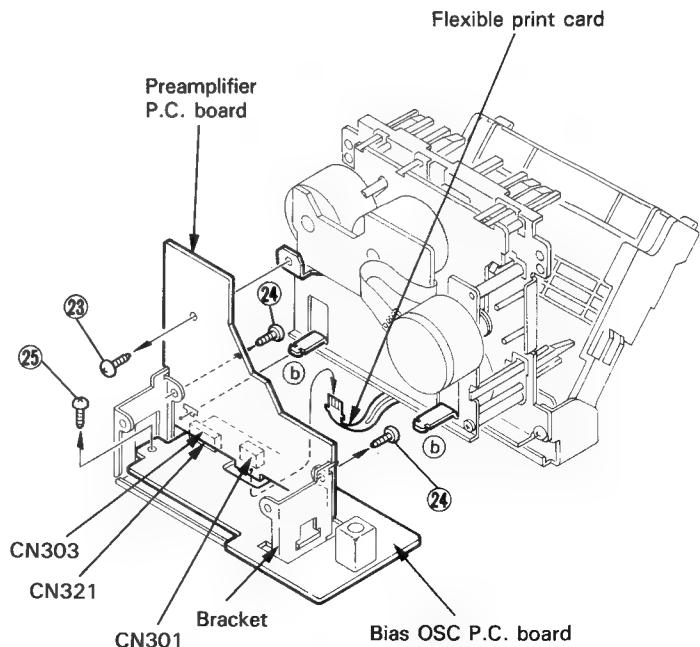

Fig. 7-20
■ Method of removing the preamplifier P.C. board and bias OSC P.C. board (Refer to Fig. 7-20)